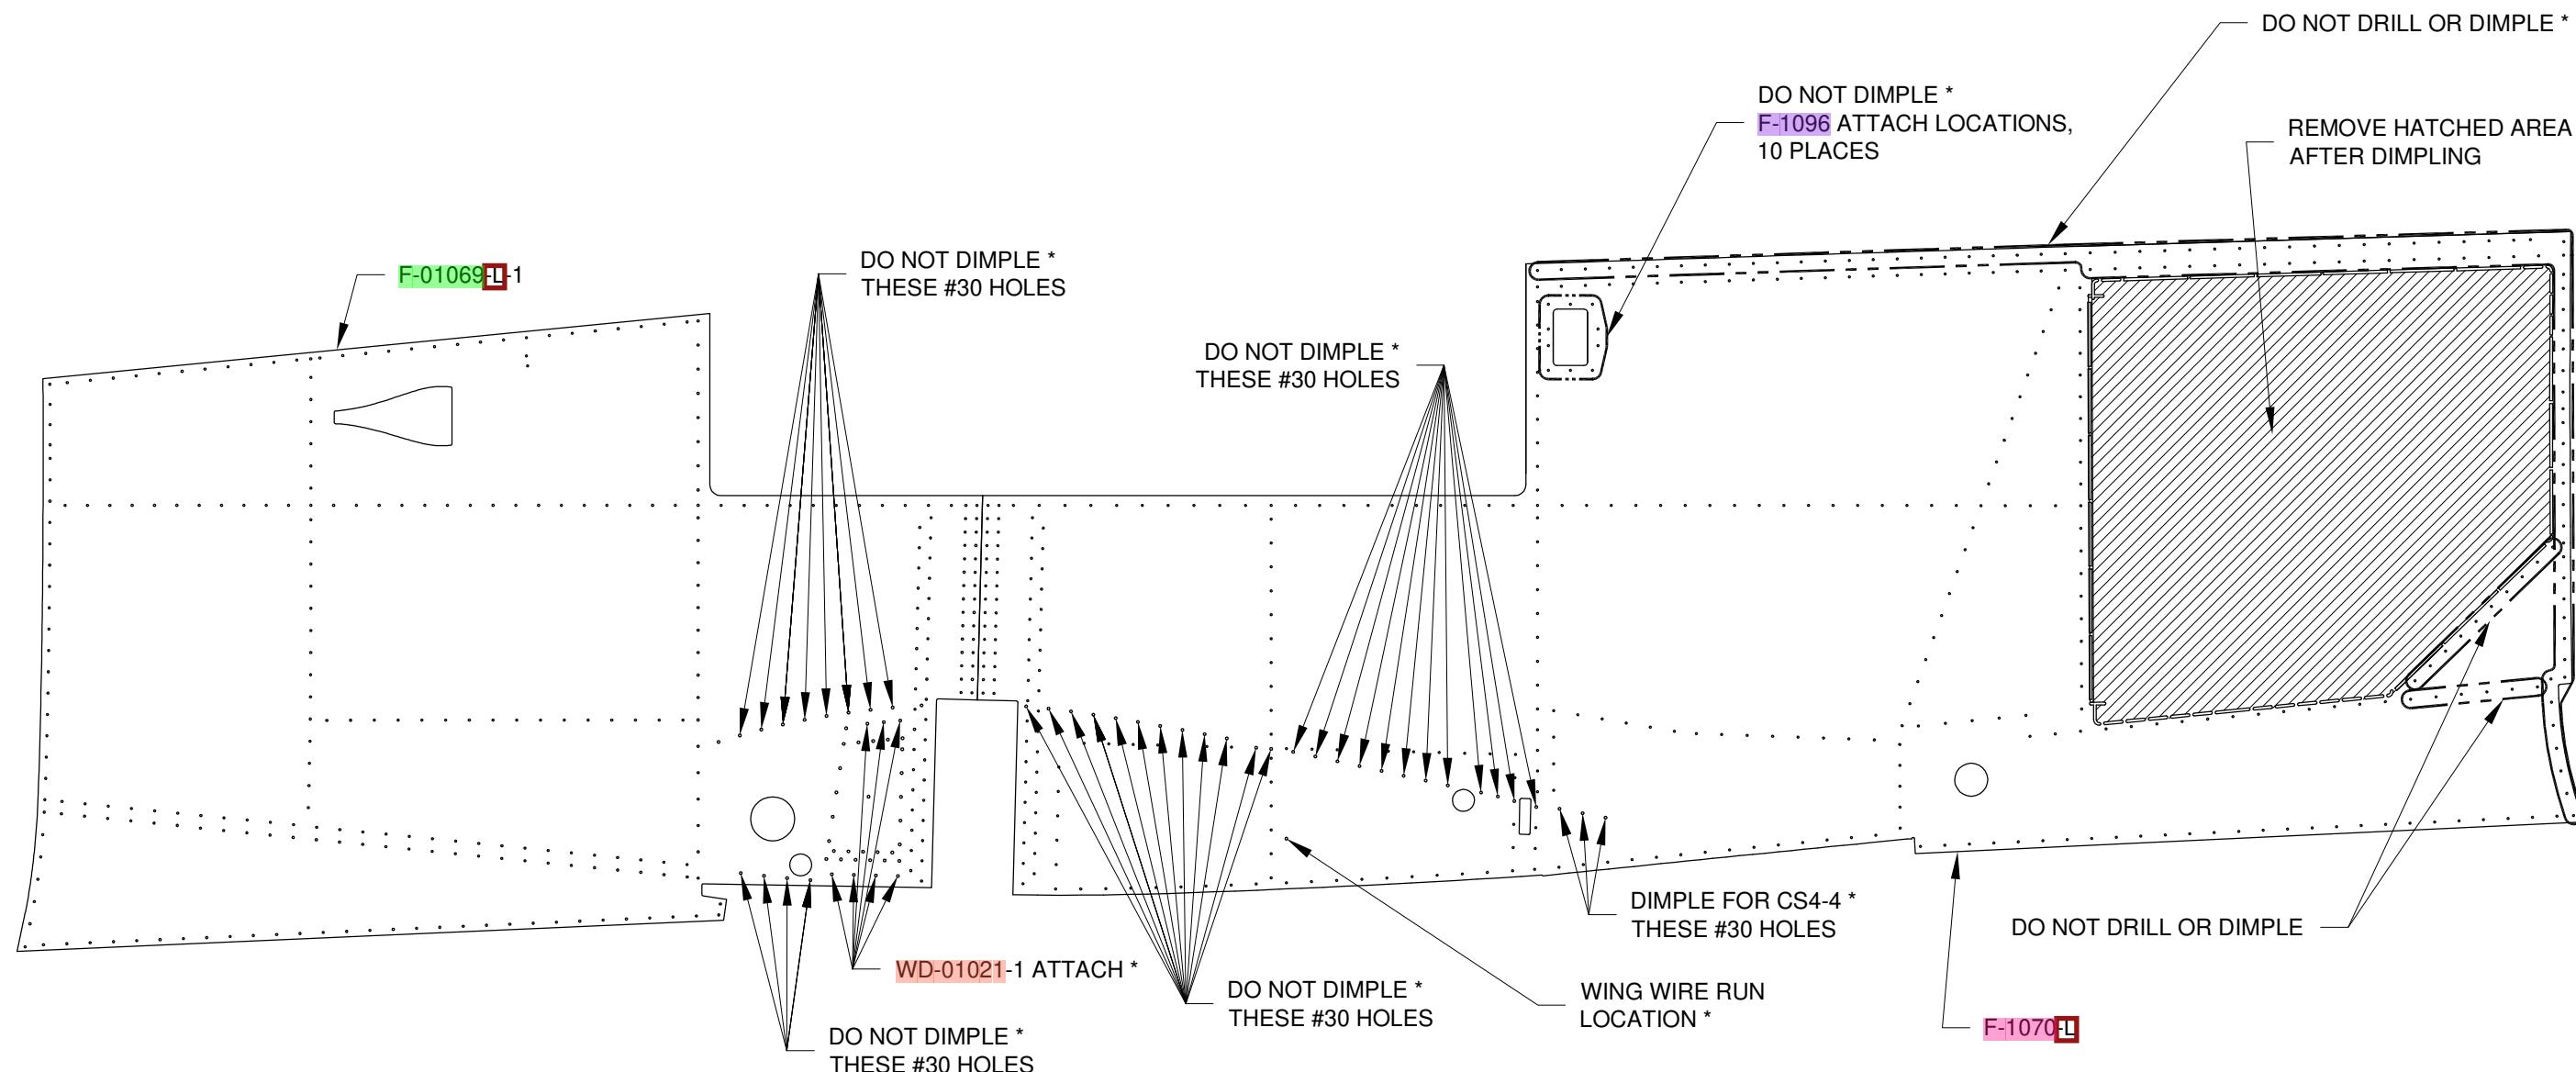

FIGURE 1: DIMPLING THE SIDE SKINS
Step 2: Using the callouts in Figure 1 dimple the F-01069-L-1 & R-1 Fwd Side Skins and the F-1070 Mid Side Skins.
Step 3: Remove the hatched area from the baggage door area on the F-1070-L Mid Side Skin as shown in Figure 1.
Step 4: Enlarge the wing wire run location in the F-1070-L and R Mid Side Skins (see Figure 1) for a snap bushing that will accommodate the wires and pressure lines coming from the wing. Deburr, then install a snap bushing in the wing wire run hole. Because of its custom size the snap bushing is not provided in the kit but can be purchased through Van's Aircraft Accessory Catalog. If this hole is not utilized leave it open.
Step 1: Modify the empennage bucking bar created on Page 9-12, Step 3 for use in the rest of this section. See Figure 1.
Step 2: Rivet the F-1034B Seat Back Brace to the F-1034C-L and F-1034C-R Fuselage Bulkheads per the callouts on Page 29-7, Figure 1. Rivet the seat back brace, F-1034E Seat Back Brace Gusset, F-1046-L Mid Fuse Longerons and F-10102B Baggage Door Seal Angle together per the callouts on Page 29-6, Figure 2. Rivet the F-10102A Baggage Door Seal Angle to the mid fuse longeron per the callouts on Page 29-6, Figure 2.